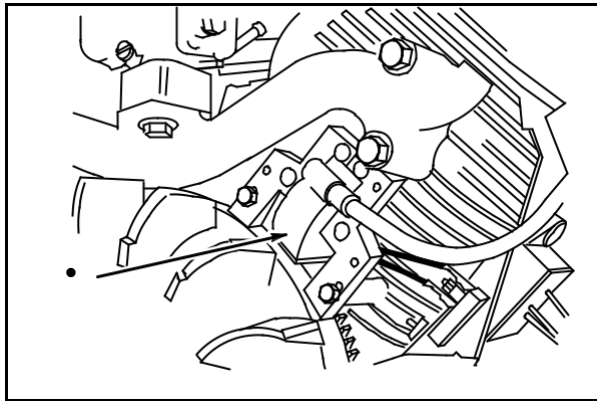

Fig. 13
Remove armature screws and lift off armatures (1), **Fig. 13**.